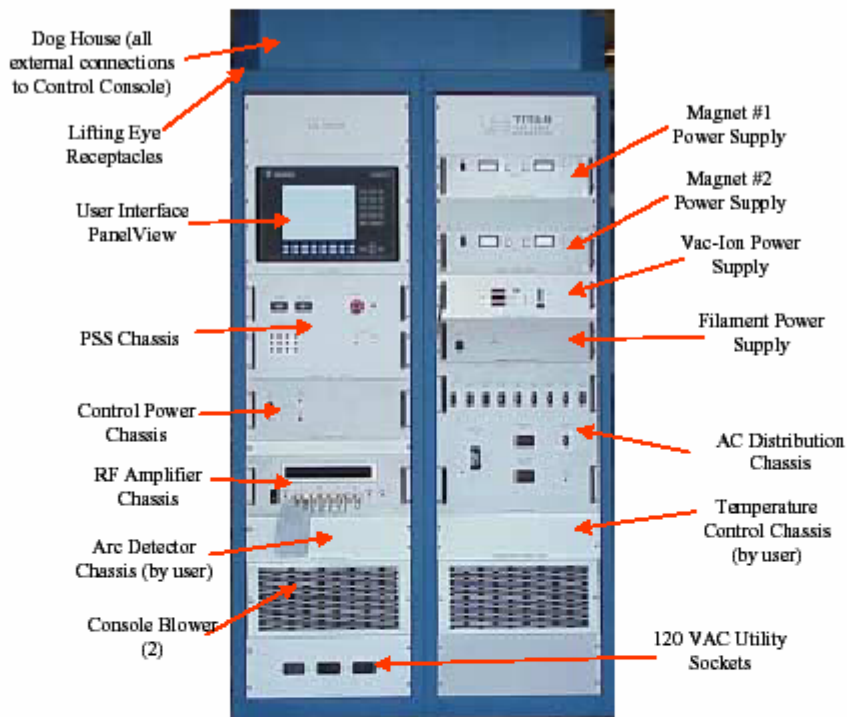

Figure 2-4. Control Console, Front.
The Control Console (CC), shown in Figures 2-4 and 2-5, contains all the klystron's ancillary power supplies and the Solid State RF Amplifier Chassis as well as a Programmable Logic Controller with attached User Monitor. The PLC acts as an interface for local and remote control and monitoring of the klystron and ancillary power supplies. All ancillary power supply chassis are clearly shown in Figures 2-4 and 2-5. The CC is vented by two blowers, which are mounted in the bottom of each rack. The Control Power Chassis provides low voltage DC to the CC and the AC Distribution Chassis contains breakers for the distribution feeders, which route AC power to all the chassis in the CC. The PSS Chassis contains all the timing monitoring and sampling circuits, the hardwired safety system, communication connections between the CC and the HVE and logic for all customer-connected interlocks. The PLC and PSS Chassis communicate with one another and together provide the control